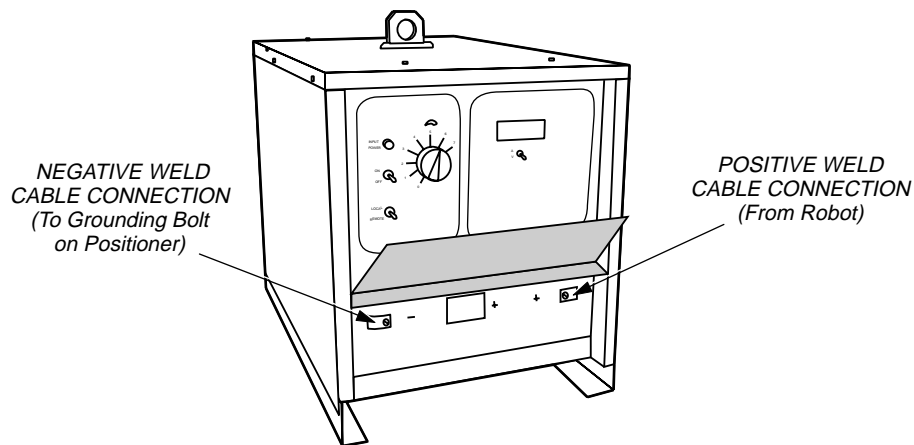

Figure 4-7 Positive and Negative Terminals on Welding Power Source
3. Connect the other end of the ground welding cable to the negative (-) terminal on each welding power source (see Figure 4-7).